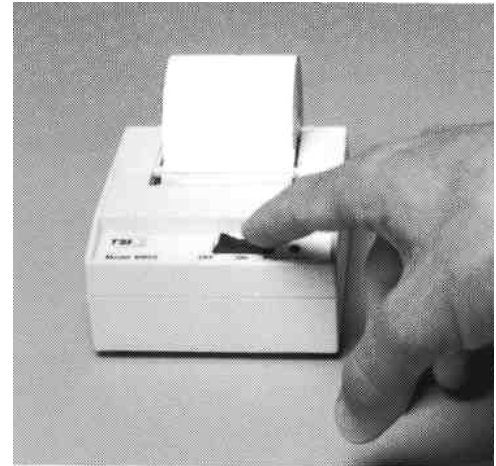

Figure VIII-13. Advancing the paper
Step 1. Use the paper feed switch to advance the paper about one inch beyond the paper cutter (fig. VIII-13).